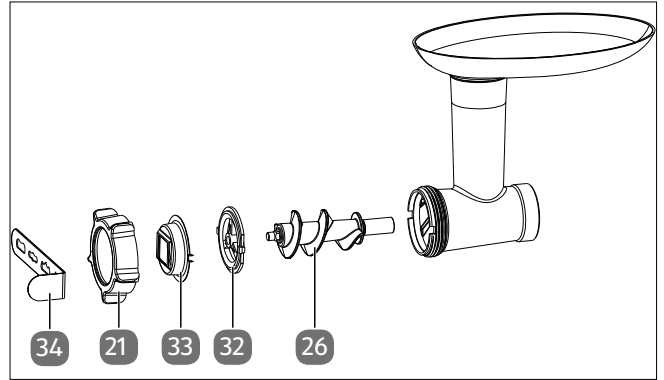

Fig. 17 – Accessories for biscuits
- ▶ To make biscuits from biscuit dough, mount the holder and biscuit press attachment as well as the worm gear in the order as shown (see Fig. 17).